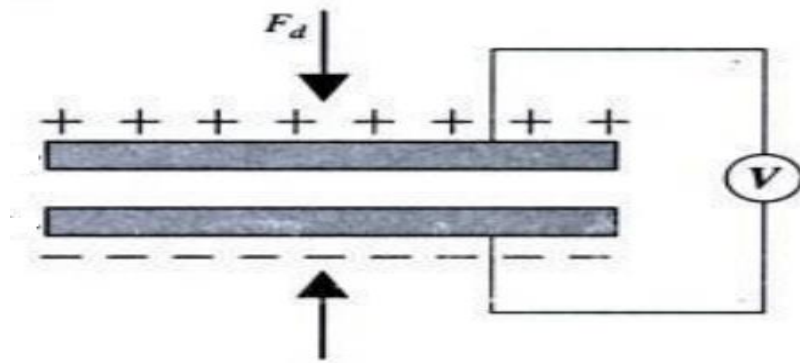

Fig.3.Parallel plate capacitor for the electrostatic actuation
- A conventional method is the parallel plate actuation in which the top moving plate has a certain polarity, and the bottom fixed plate has an opposite polarity (Fig. 3).